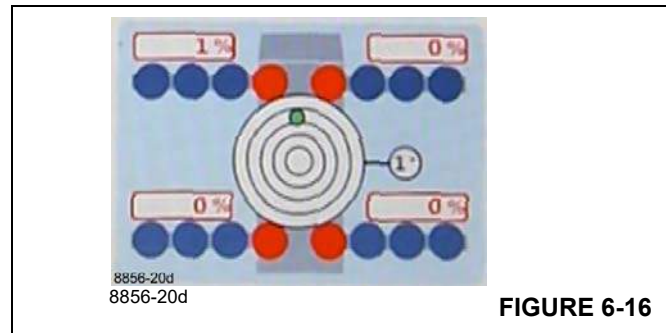

FIGURE 6-16
9. Align the truck crane horizontally (Figure 6-16).